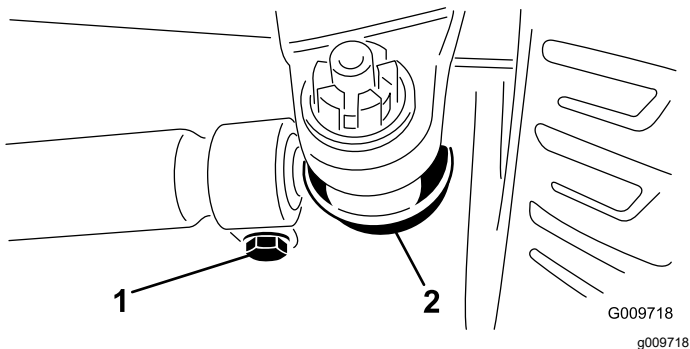

Figure 83
3. To adjust, remove the cotter pin and nut from either tie rod ball joint (Figure 83). Remove the tie-rod ball joint from the axle-case support.
4. Loosen the clamps at both ends of the tie rods (Figure 83).